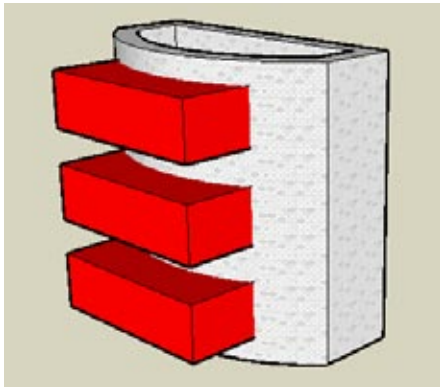

Figure 3-35
- Paint the component and place three of them along the curved wall (Figure 3-35).